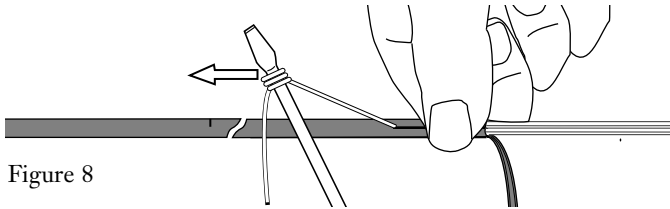

Figure 8
**4.7** Wrap the rip cord around the shaft of a screwdriver which will serve as a handle. Pull the rip cord through the sheath back to the marked strip length (Figure 8).